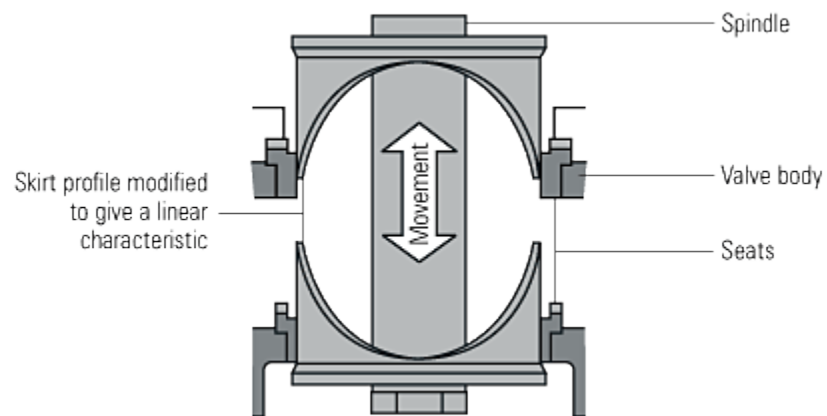

Fig. 6.1.14 Plug skirt modified to give a linear characteristic
**Note:** A linear characteristic is achieved by profiling the plug skirt (see Figure 6.1.14).